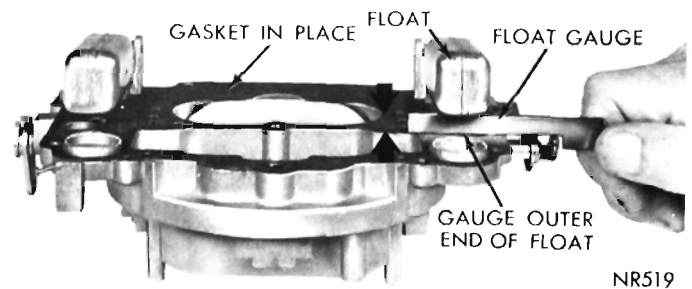

Fig. 9—Checking Float Height
- (1) With air horn inverted, air horn gasket in place and float needle seated, slide float gauge (refer to specifications for carburetor being worked on) between top of the float (at outer end) and air horn gasket, (Fig. 9). Float should just touch gauge (T-109-107).
- (2) Check other float in same manner. If an adjustment is necessary, bend float arm using Tool T-109-22, until correct clearance has been obtained. After bending arm, recheck the float alignment.